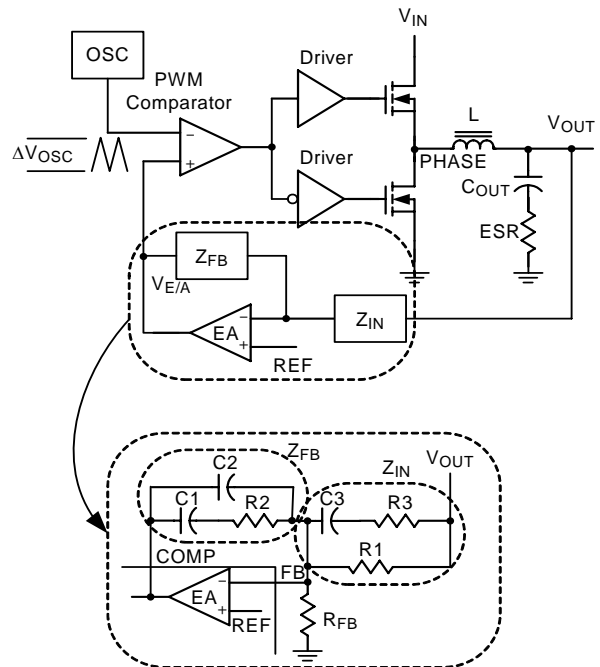
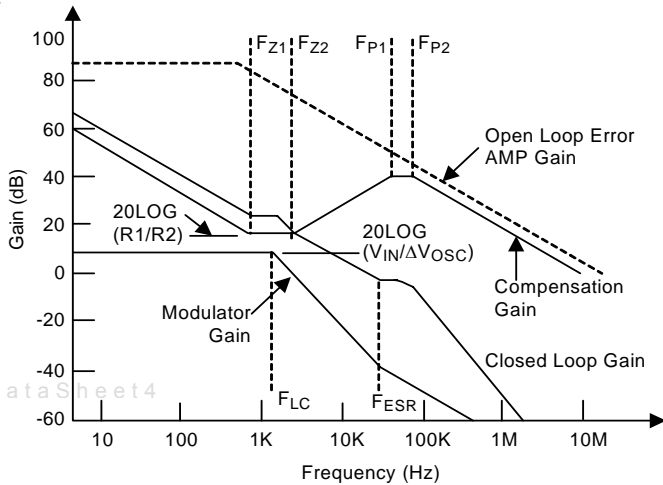

Figure 7
Figure 8
Figure 7 highlights the voltage-mode control loop for a synchronous buck converter. Figure 8 shows the corresponding Bode plot. The output voltage ( $V_{OUT}$ ) is regulated to the reference voltage. The error amplifier EA output (COMP) is compared with the oscillator (OSC) sawtooth wave to provide a pulse-width modulated (PWM) wave with an amplitude of  $V_{IN}$  at the PHASE node. The PWM wave is smoothed by the output filter (L and  $C_{OUT}$ ). The modulator transfer function is the small-signal transfer function of  $V_{OUT}/COMP$ . This function is dominated by a DC gain and the output filter (L and  $C_{OUT}$ ), with a double pole break frequency at  $F_{P\_LC}$  and a zero at  $F_{Z\_ESR}$ . The DC gain of the modulator is simply the input voltage ( $V_{IN}$ ) divided by the peak-to-peak oscillator voltage  $\Delta V_{OSC}$ . The break frequency  $F_{LC}$  and  $F_{ESR}$  are expressed as Equation (1) and (2) respectively.
The compensation network consists of the error amplifier EA and the impedance networks  $Z_{IN}$  and  $Z_{FB}$ . The goal of the compensation network is to provide a closed loop transfer function with the highest DC gain, the highest 0dB crossing frequency (FC) and adequate phase margin. Typically, FC in range 1/5 to 1/10 of switching frequency is adequate. Higher FC will cause faster dynamic response. A phase margin in the range of 45°C to 60°C is desirable. The equations below relate the compensation network poles, zeros and gain to the components ( $R_1$ ,  $R_2$ ,  $R_3$ ,  $C_1$ ,  $C_2$ , and  $C_3$ ) in Figure 7.